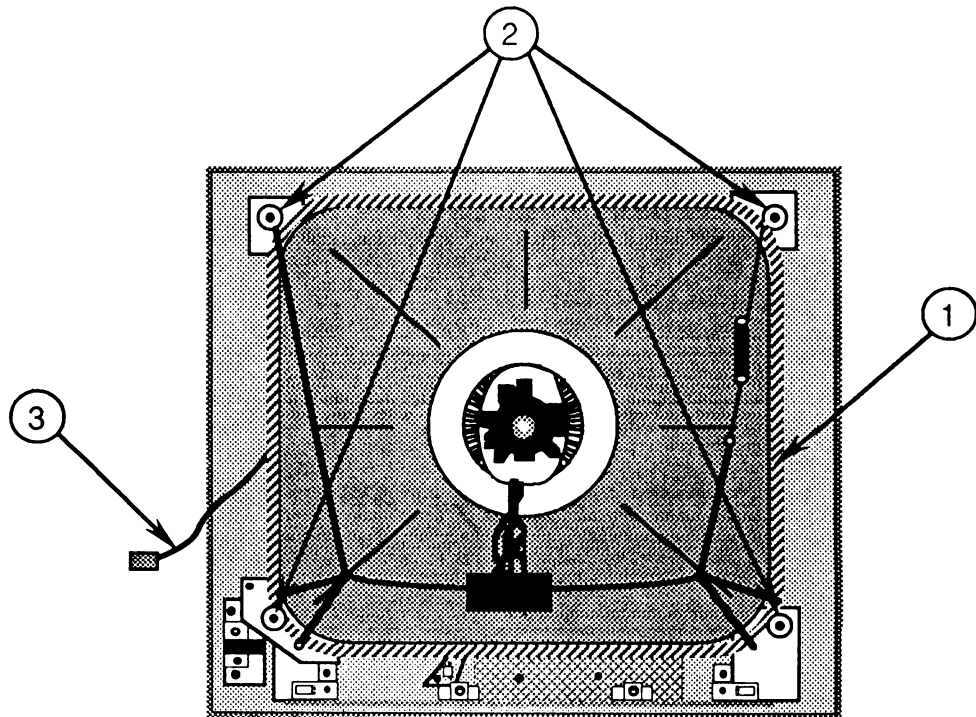

FIGURE 33
5. Locate the degaussing coil (Figure 33, #1). It is braced to the CRT by plastic-coated holding tabs at each corner.
7. Remove the four sets of CRT mounting screws, case support brackets, washers, and holding tabs (Figure 33, #2).
2. Carefully set the CRT inside the bezel (see Figure 33).
3. Replace the holding tabs, washers, case support brackets, and CRT mounting screws (Figure 33, #2).
4. Place the degaussing coil over the CRT so that the connector (Figure 33, #3) is at the left side when you face the back of the monitor.